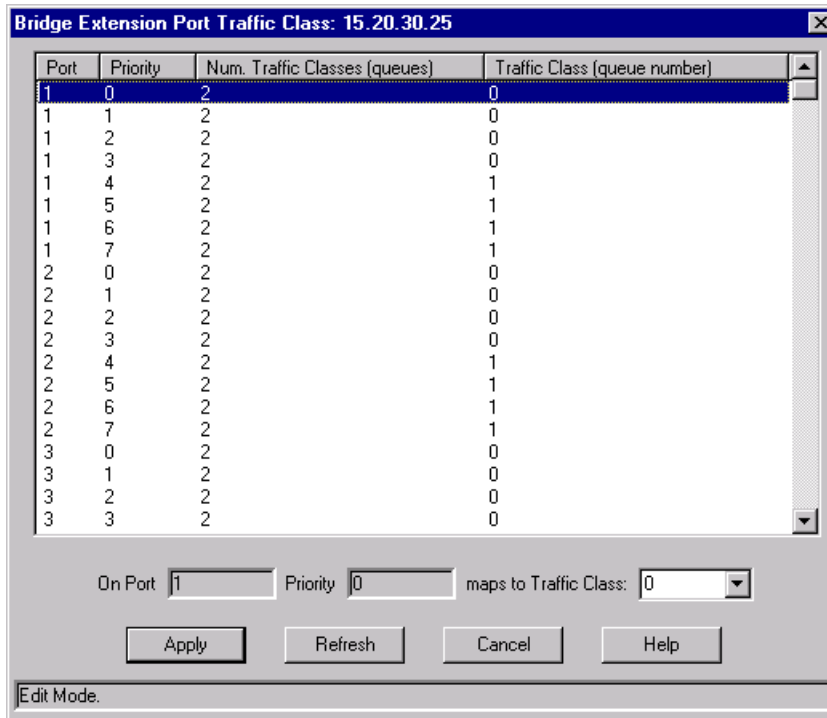

Figure 2-34. The Bridge Extension Port Traffic Class Window
2. In the Bridge Extension Configuration window, click on the **Priority** button and select **Traffic Class...** from the menu. The Bridge Extension Port Traffic Class window, Figure 2-34, appears: